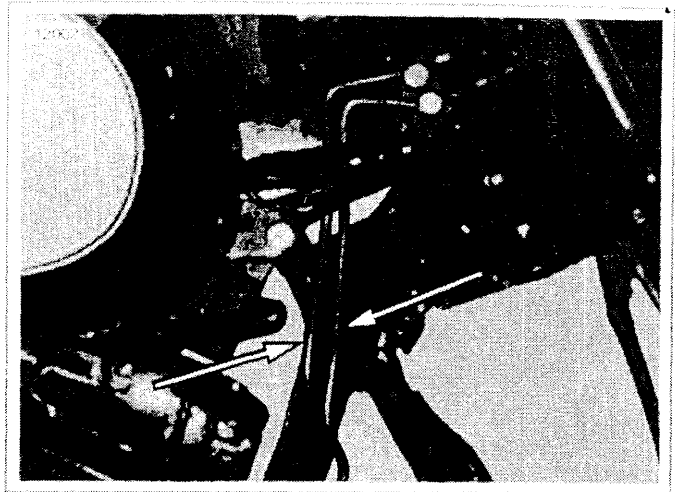

Figure 4. Incorrect Routing For Rearward Extending Brake Lines
- See Figure 4. Routing is incorrect when both brake lines extending rearward from the brake manifold are uneven leaving large gaps and crossing each other where bends occur.